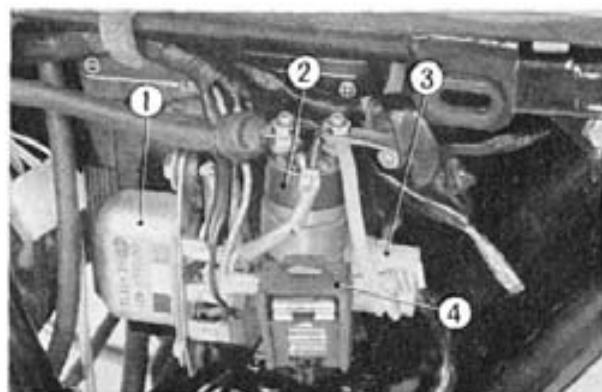

Fig. 16-27 ① Regulator
9. Remove the battery cover, and then remove the following parts; regulator, starter magnetic switch, rectifier connector, fuse case and signal stat. (Fig. 16-27)